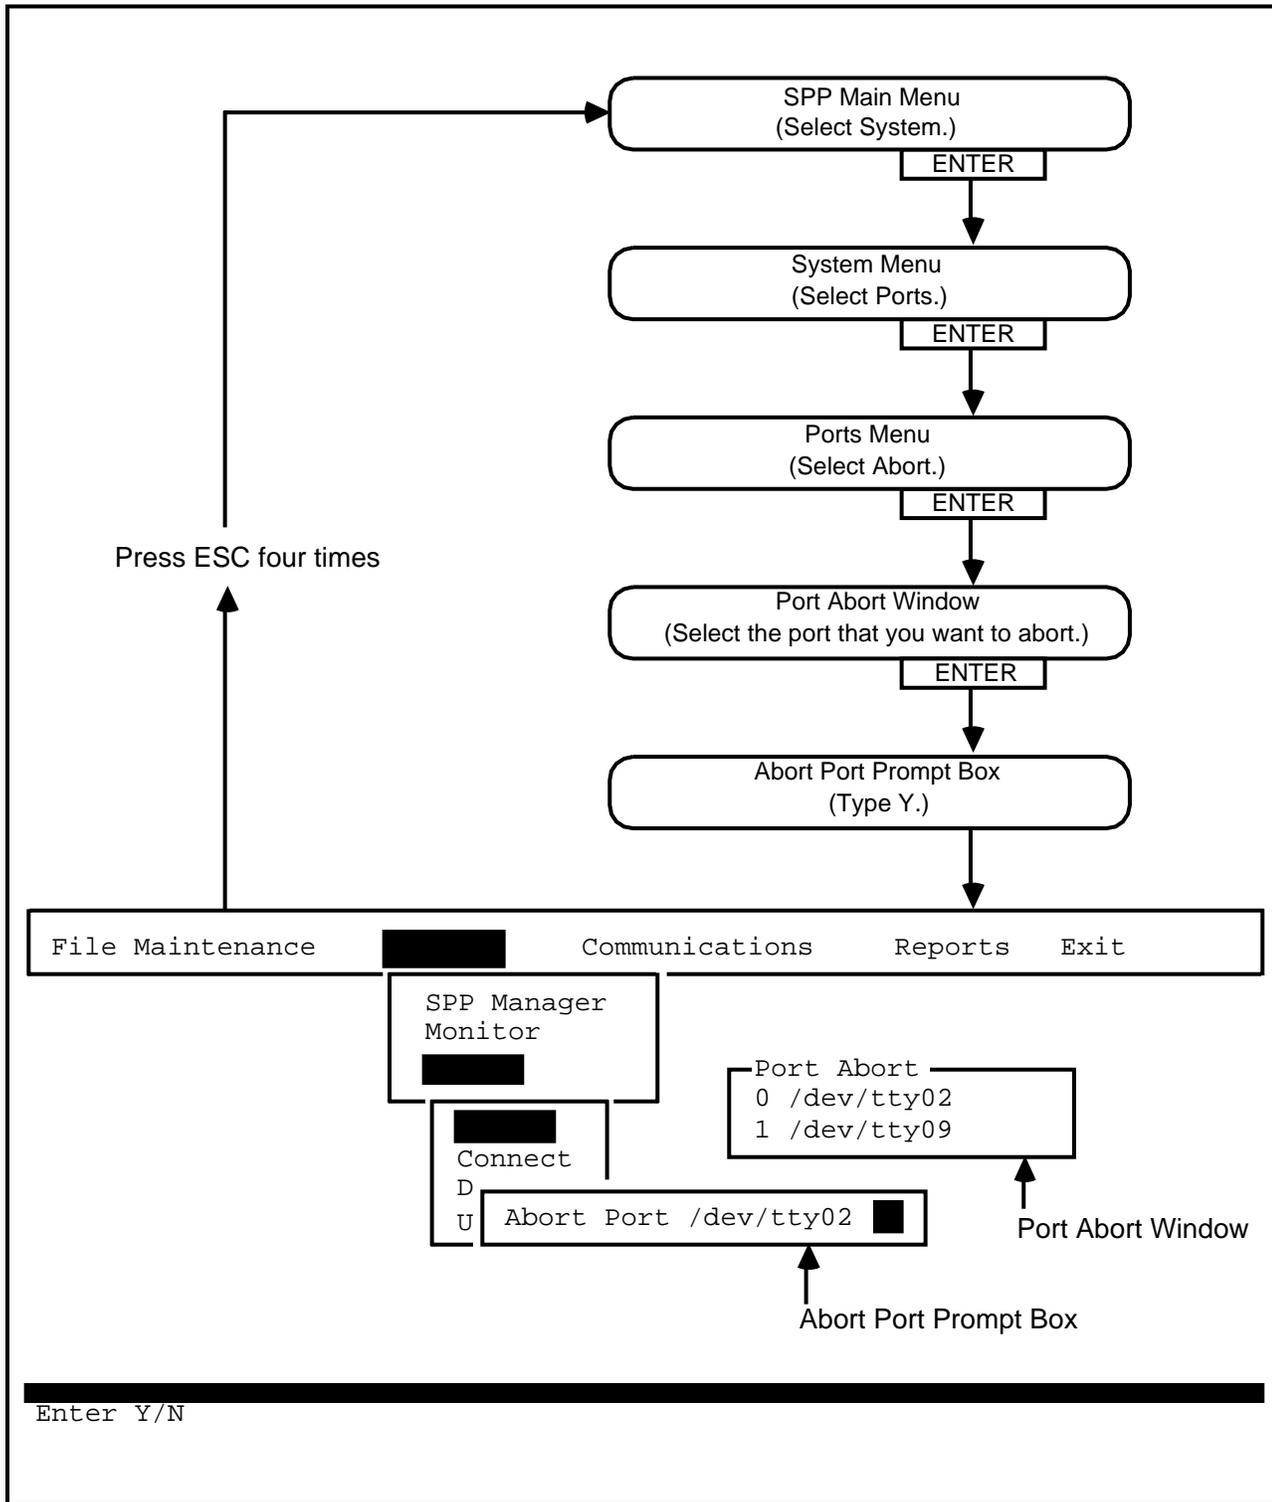

Fig. 4-5
4.12 The Abort Port prompt box (see Fig. 4-5) is used to cancel the operations in process at a specified port. To cancel the operations of a port, proceed as follows: